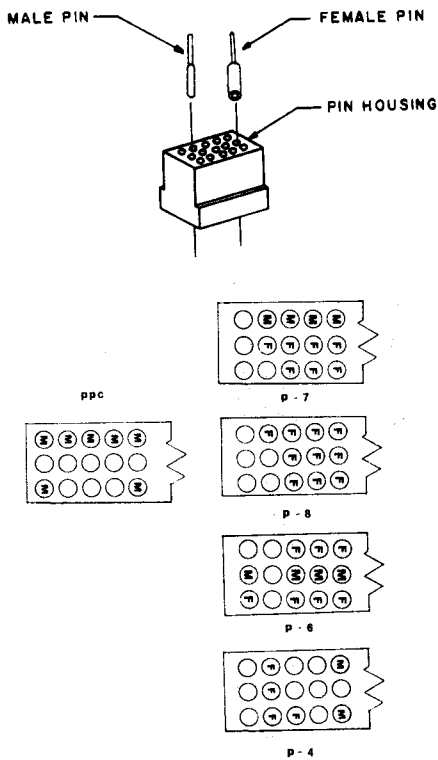

Figure 3-22. Molex Connector Pin Installation
2. Using Figure 3-22, insert the male and female pins into the molex receptacles as shown until secured.